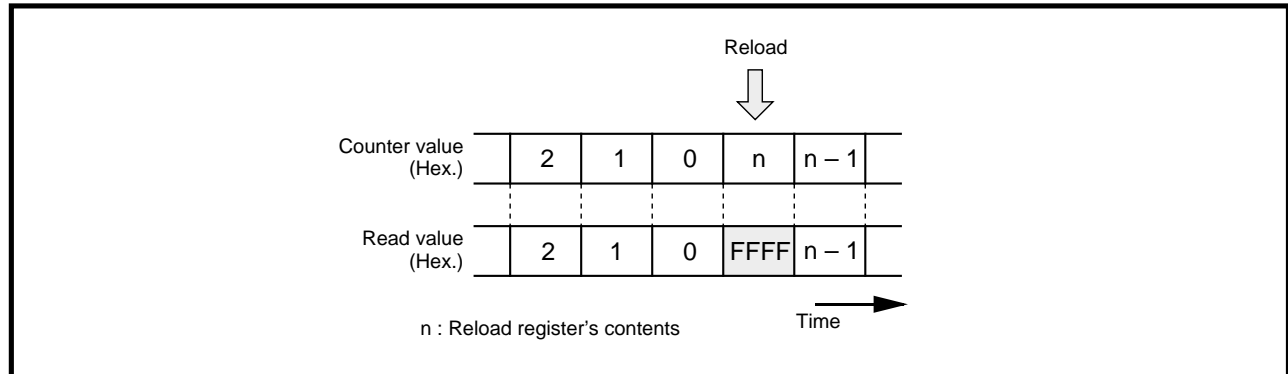

Fig. 7.3.6 Reading timer Ai register
1. By reading the timer Ai register, the counter value can be read out at arbitrary timing. However, if the timer Ai register is read at the reload timing shown in Figure 7.3.6, the value “FFFF16” is read out. If reading is performed in the period from when a value is set into the timer Ai register with the counter stopped until the counter starts counting, the set value is correctly read out.